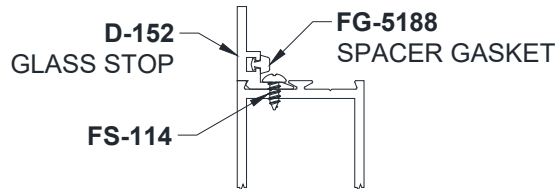

Figure 37: Installing D-152 Glass Stop
13.1.1 Door may have **D-152** Glass Stop factory installed. If it is not, match-drill the rails of the door with the factory-created pilot holes in **D-152**, taking care not to damage the pre-installed **FG-5188** Spacer Gasket. Attach the **D-152** Glass Stop to the door with **FS-114** fasteners. Reference Figure 37.